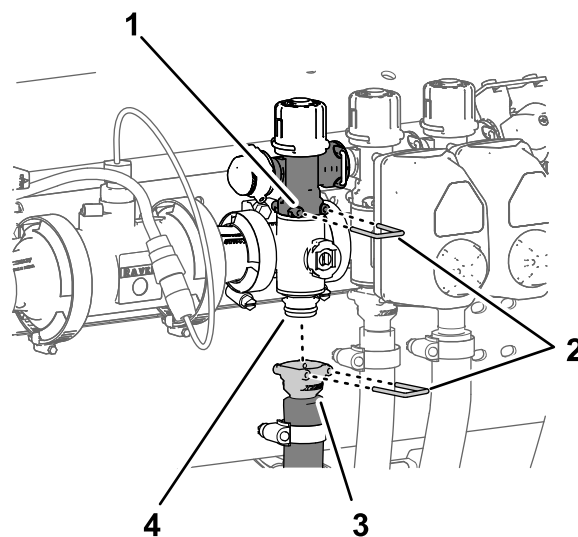

Figure 110
1. Remove the quick-connect pin that secures the quick-connect coupler for the section-bypass valve to the section-manifold valve (Figure 110).
2. Remove the quick connect pin that secures the quick-connect coupler for the section supply hose to the manifold for the quick-connect fitting of the section-manifold valve (Figure 110).